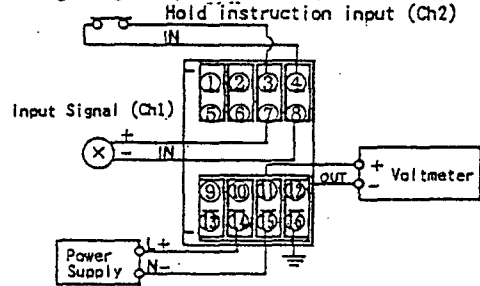
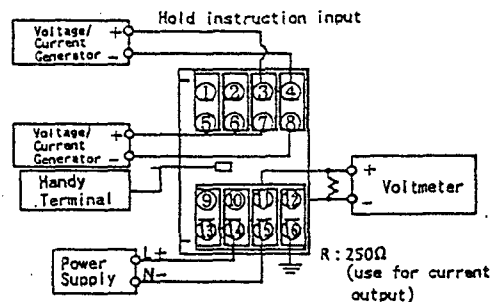

Fig. 11 Wiring of Calibration Equipment: (Soft Variable Type)
Fig. 12 Wiring of Calibration Equipment (Soft Fixed Type)
- ① Connect each equipment as shown in Figs. 11 and 12.
- ② Input/output characteristic check
Make hold instruction input less than 25% (Fig. 11) or ON (Close) (Fig. 12). Use Voltage/Current Generator and apply signal equivalent 0, 25, 50, 75 and 100% of input span to Ch1. Check that corresponding outputs are within specified accuracy rating range of respective output reference values.
Make hold instruction input more than 75% (Fig. 11) or OFF (Open) (Fig. 12). Check to see the output holds its value even though input to Ch1 thereafter is changed.